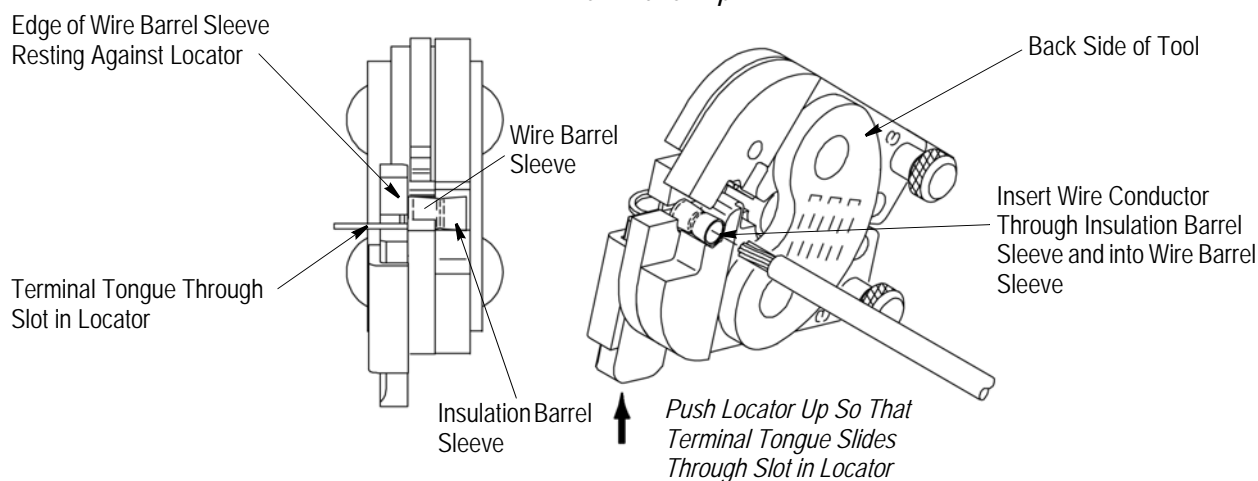
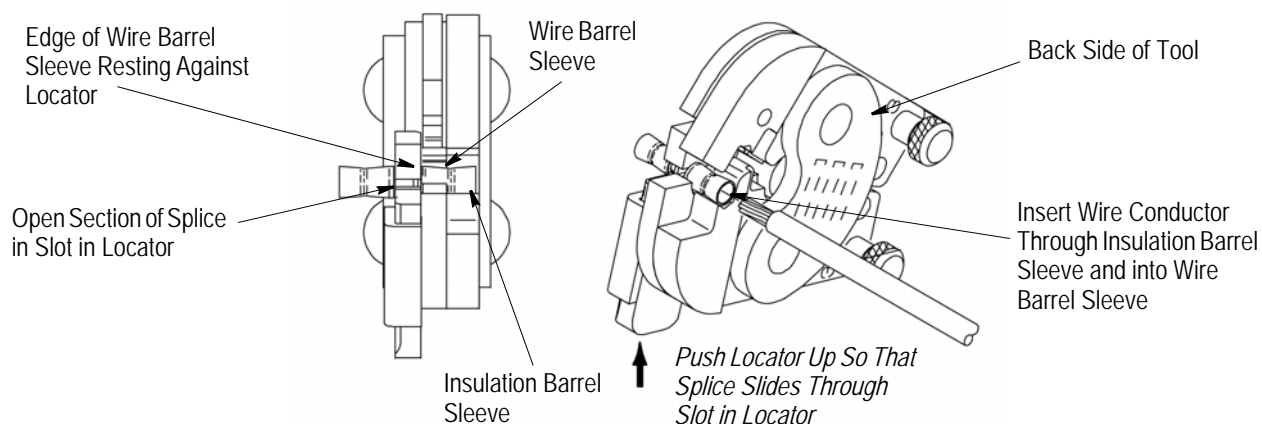

Figure 3
Figure 4
3. Push the locator up and, from the FRONT side of the tool, insert the terminal or splice wire barrel sleeve into the crimping jaws making sure that the edge of the wire barrel sleeve rests against the locator. See Figure 3 and Figure 4.
5. Insert wire conductor through the insulation barrel sleeve and into the wire barrel sleeve until it is flush with the outer edge of the wire barrel sleeve. See Figure 3 and Figure 4.